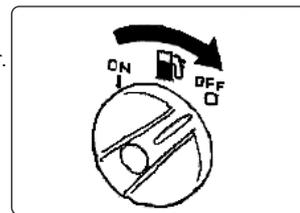

fig.13
- 6.4.5. Turn the fuel knob to "OFF"fig.13.